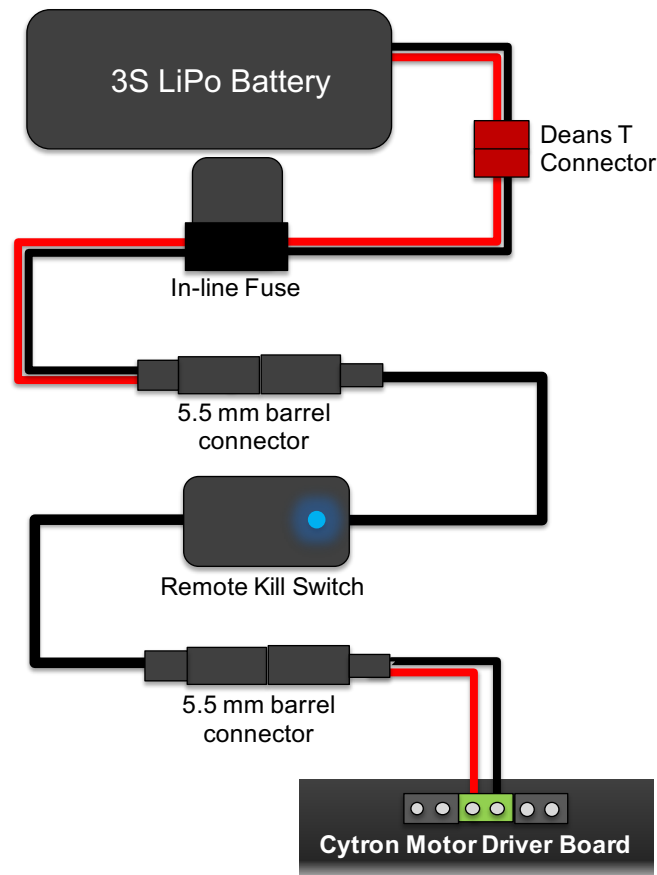

Figure 2 – A 3S LiPo battery is connected to a Cytron dual motor driver board. Between them are a series of safety features that regulate the flow of power.
1. Sketch the system shown in Fig. 2 in your lab notebook.
7. Connect the male end of 5.5 mm barrel on the remote switch to the barrel connector you connected to the motor driver board. The system should now look like Fig. 2.